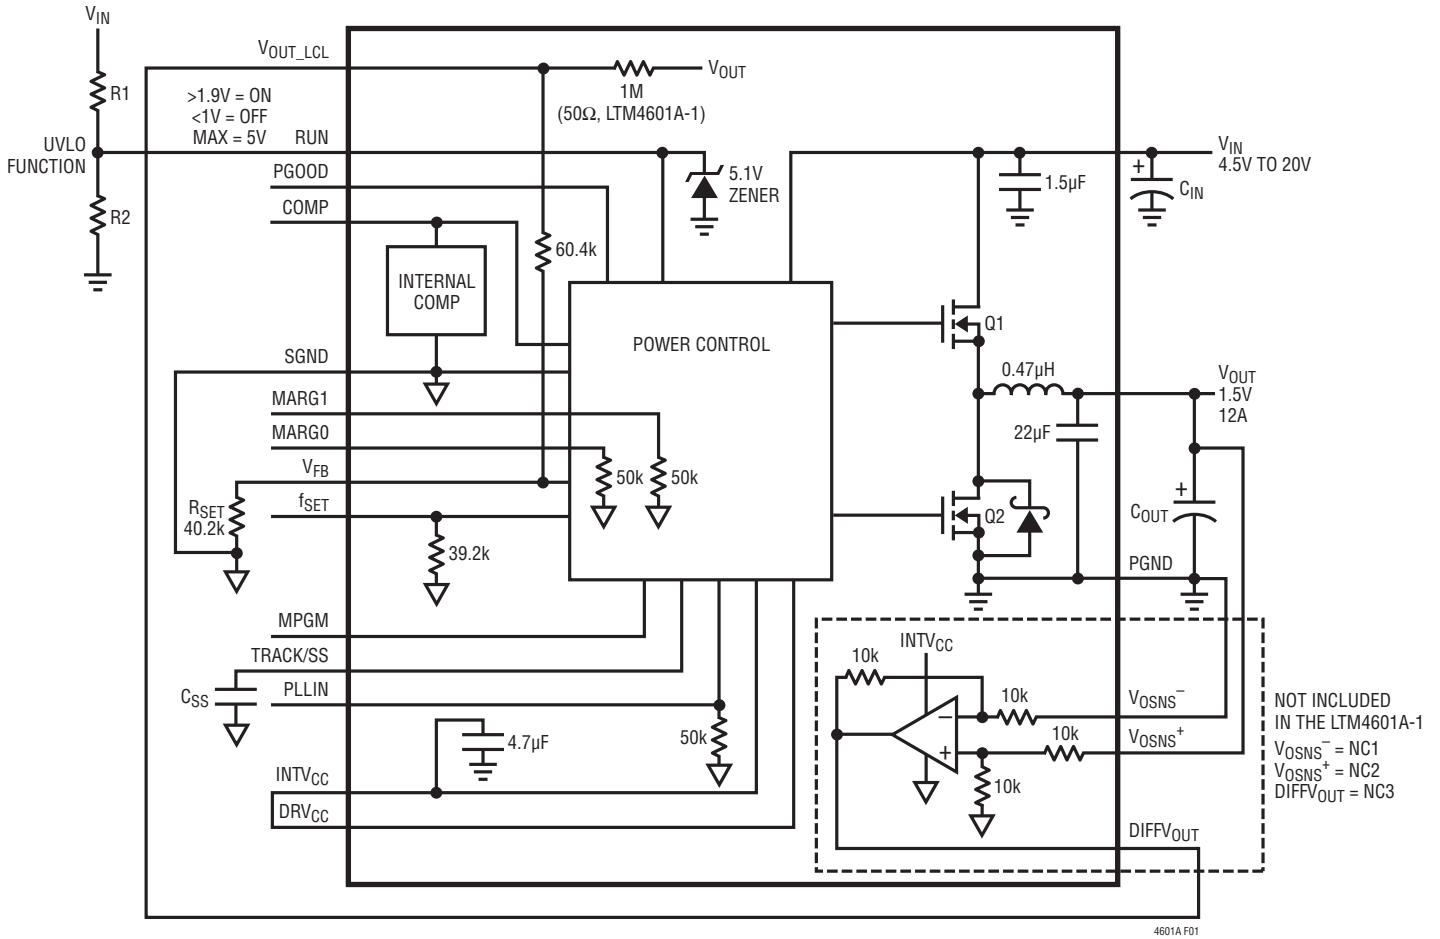

Figure 1. Simplified LTM4601A/LTM4601A-1 Block Diagram
**RUN (Pin A10):** Run Control Pin. A voltage above 1.9V will turn on the module, and when below 1V, will turn off the module. A programmable UVLO function can be accomplished by connecting to a resistor divider from  $V_{IN}$  to ground. See Figure 1. This pin has a 5.1V Zener to ground. Maximum pin voltage is 5V. Limit current into the RUN pin to less than 1mA.
**DECOUPLING REQUIREMENTS**  $T_A = 25^\circ C$ ,  $V_{IN} = 12V$ . Use Figure 1 configuration.
See Figure 1, Simplified Block Diagram.